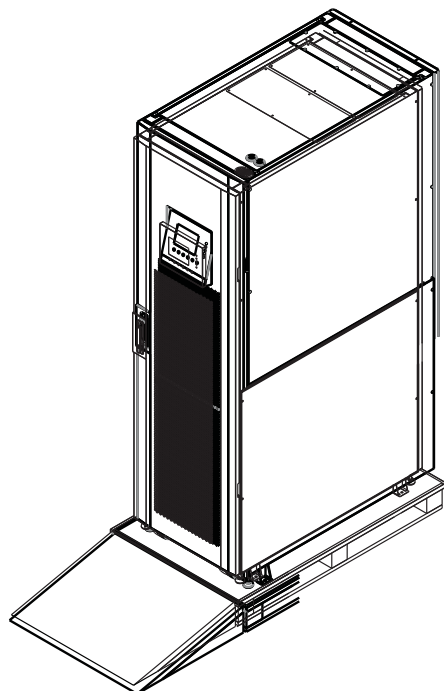

Figure 4.3
2. Place the ramp delivered in the packing box in front of the UPS cabinet and align the hole in the ramp to the metal stud on the pallet and lock into place (Figure 4.3).